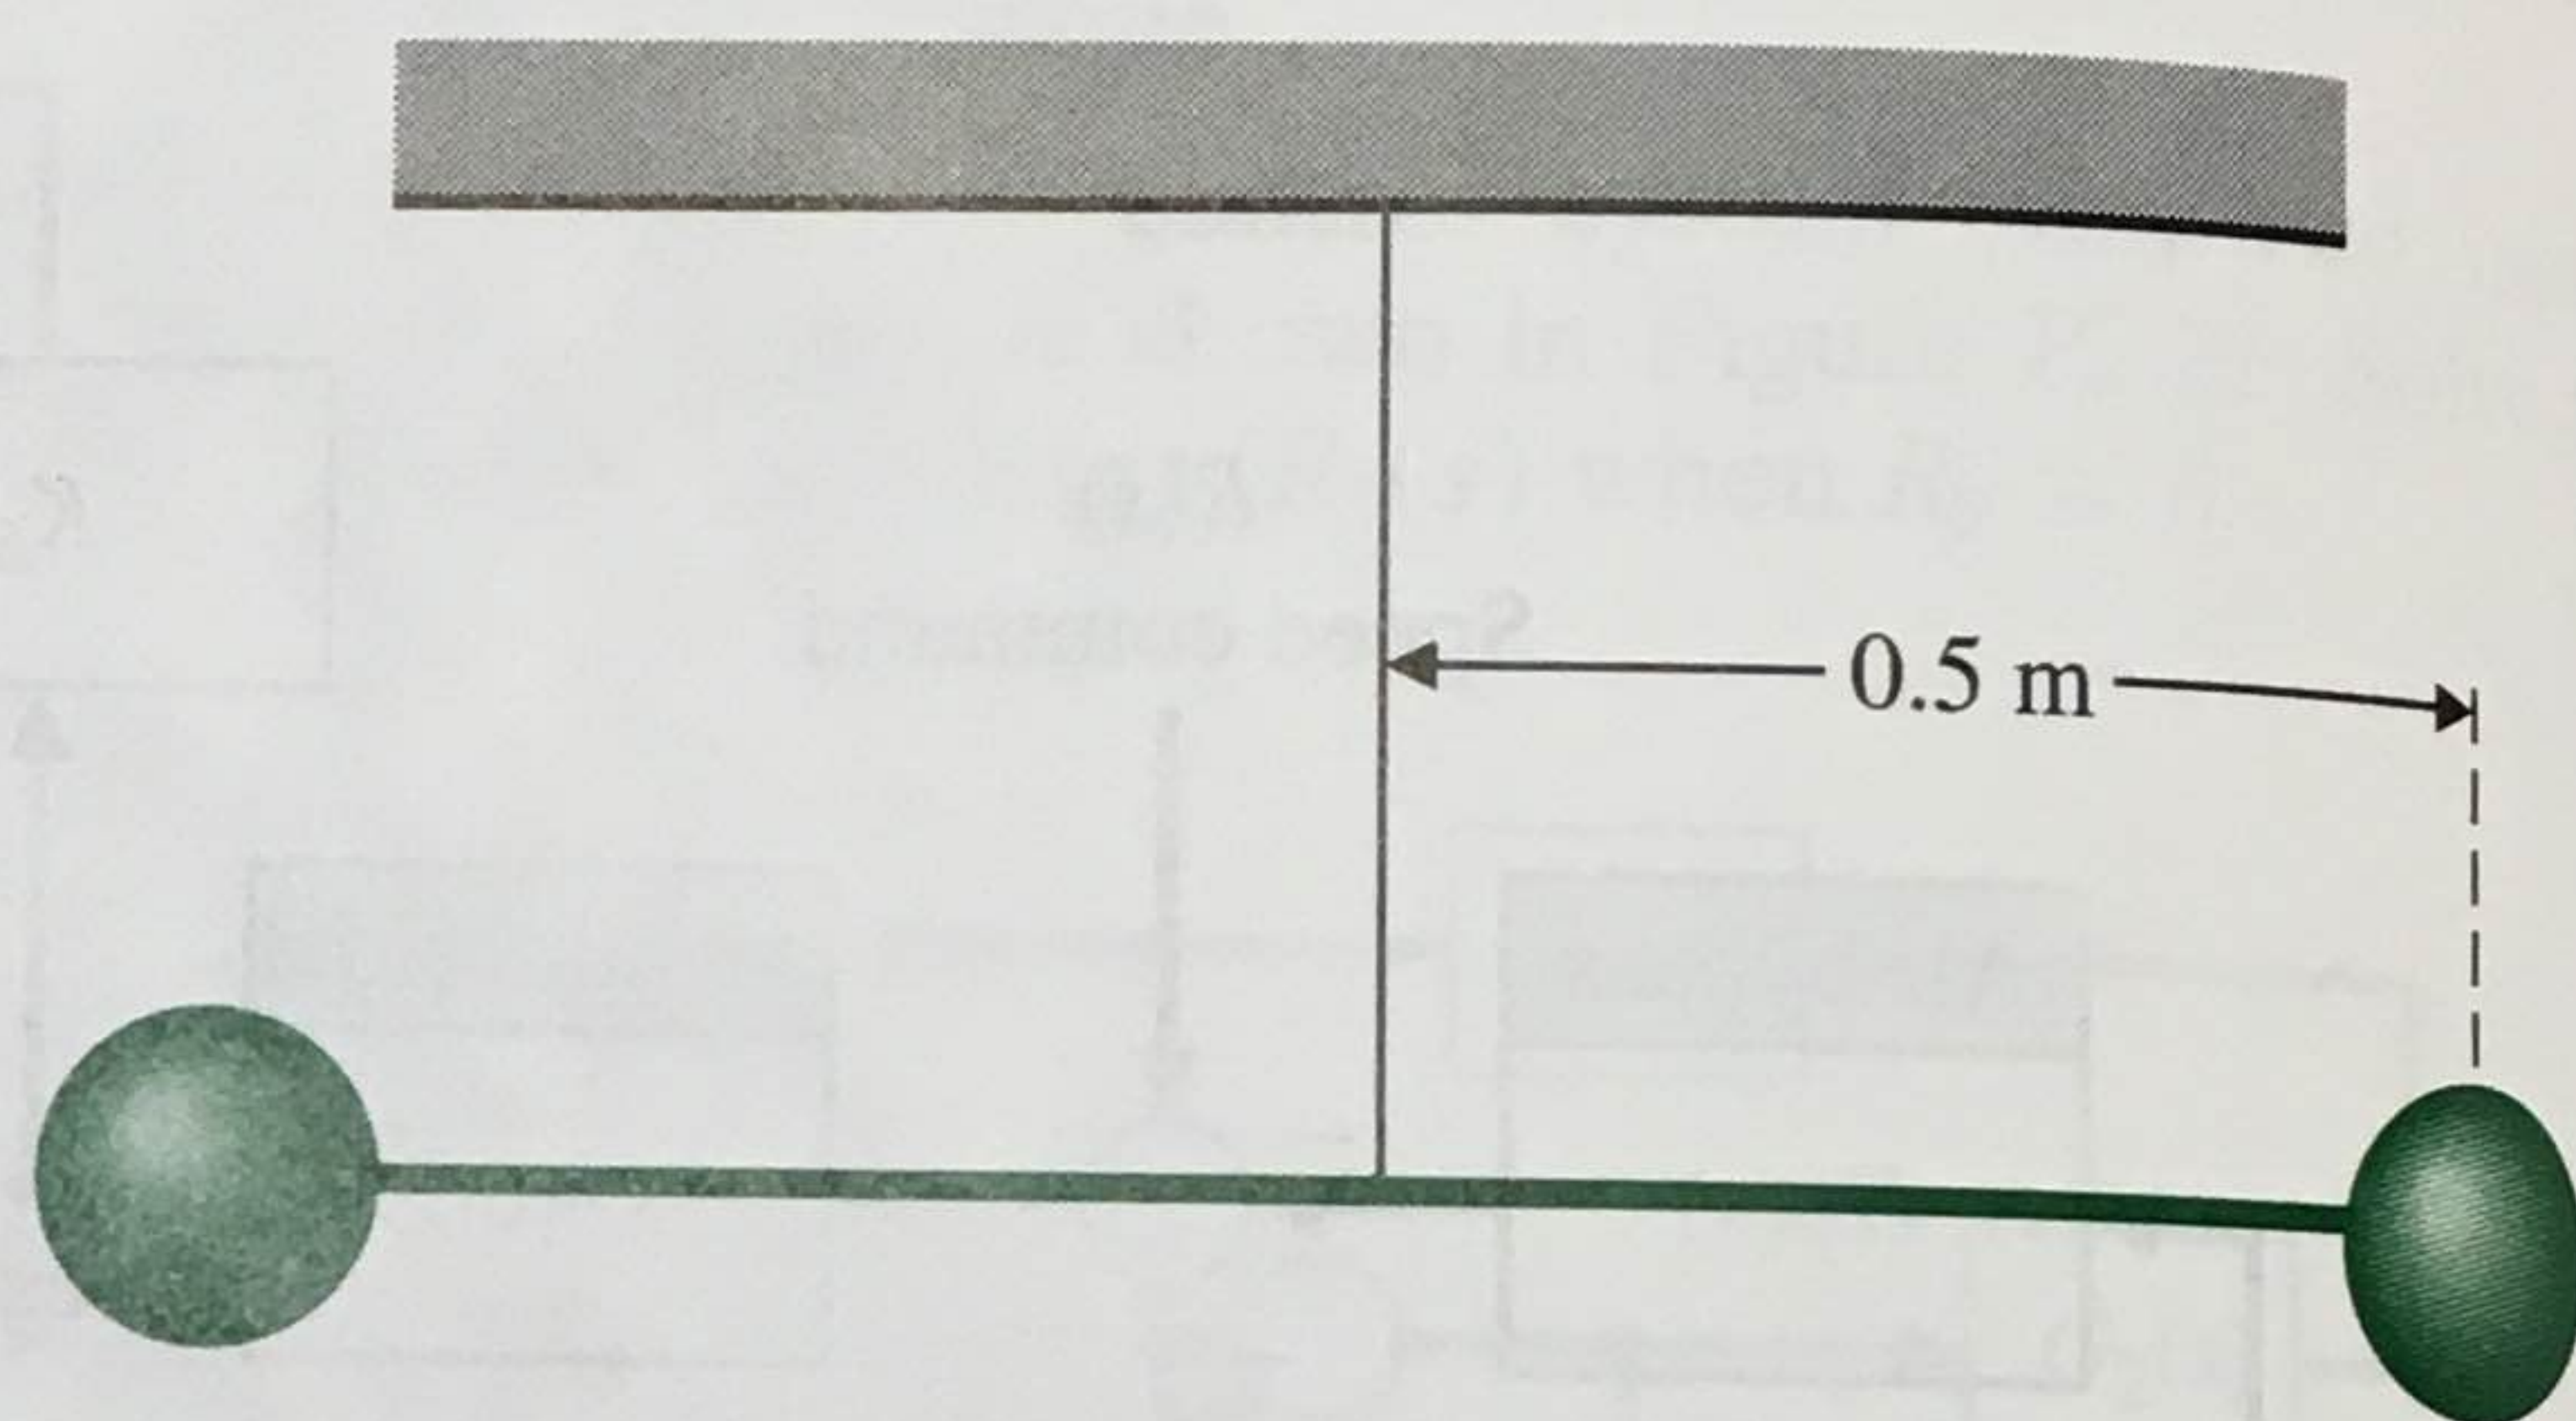

FIGURE P2.38 Winding oscillator.
- P2.38** A winding oscillator consists of two steel spheres on each end of a long slender rod, as shown in Figure P2.38. The rod is hung on a thin wire that can be twisted many revolutions without breaking. The device will be wound up 4000 degrees. How long will it take until the motion decays to a swing of only 10 degrees? Assume that the thin wire has a rotational spring constant of 2×10^{-4} N m/rad and that the